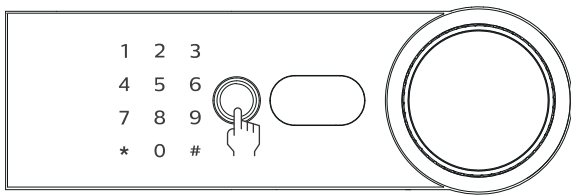

Figure 2
1. Open safe door and press the red setting button '  ' on the battery compartment. After hearing a voice prompt 'Please input the password or fingerprint', enter your fingerprint as shown in Figure 2. A voice prompt 'Configure fingerprint successfully.' indicates successful operation. If the entering fails, there will be a voice prompt 'Configure fingerprint failed'. The system will automatically exit if there is no entering in 8 seconds.